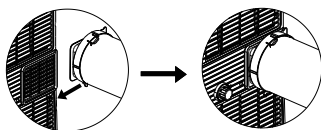

Fig.5
2. Push the Exhaust hose into the air outlet opening along the the arrow direction(See Fig. 5).